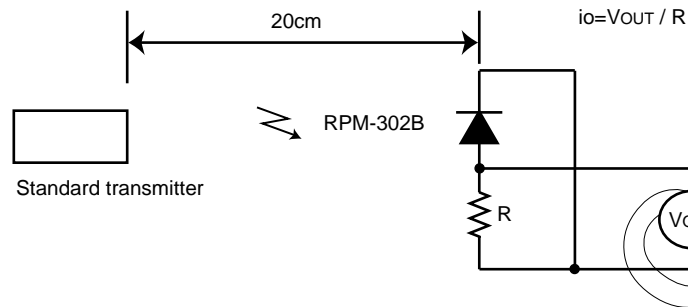

Fig.2 Measurement of standard transmitter proofreading
When standard transmitter output the signal at Fig.1 standard photodiode output become $i_o=5\mu\text{A}_{\text{p-p}}$ under the measurement condition Fig.2.
- (1) All characteristics of the receiver in this specification are specified by supplying burst wave form (Fig.1) with ROHM standard transmitter (Fig.2).